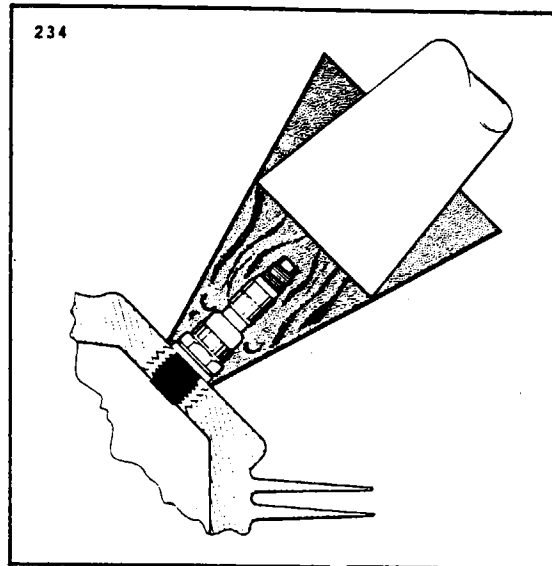

Figure 8-31. Removing Frozen Spark Plug
d. Removal of seized spark plugs in the cylinder may be accomplished by application of liquid carbon dioxide by a Conical metal funnel adapter with a hole at the apex just large enough to accommodate the funnel of a CO₂ bottle. (Refer to Figure 8-31.) When a seized spark plug cannot be removed by normal means, the funnel adapter is placed over and around the spark plug. Place the funnel of the CO₂ bottle inside the funnel adapter and release the carbon dioxide to chill and contract the spark plug. Break the spark plug loose with a wrench. A warm cylinder head at the time the carbon dioxide is applied will aid in the removal of an excessively seized plug.